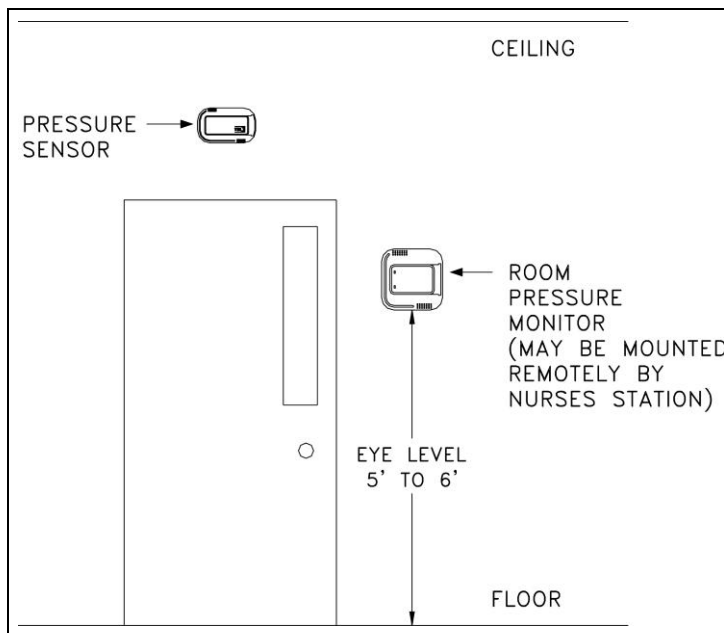

Figure 1: Typical Installation
1. Determine pressure sensor location (Figures 1, 2, and 3). Pressure sensor typically mounts in the reference space, and the plate mounts in the clean room.
3. Determine pressure sensor location (Figures 1, 6 and 7). Pressure sensor typically mounts in the reference space, and the plate mounts in the clean room.
1. Select the mounting location of the pressure Controller. The construction plans normally show the mounting location. If no location is specified, then the unit is typically installed as shown in Figure 1.